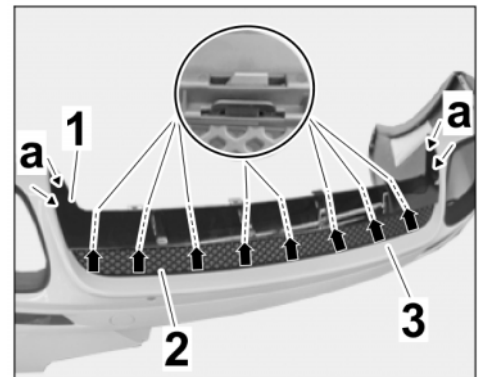

Figure 10
- 2.5 Install new diffuser (⇒ *Figure 10*).
- 2.5.1 First, clip diffuser into the center grille (⇒ *Figure 10 -Arrows-*).
- 2.5.2 Then, clip diffuser into the rear skirt (⇒ *Figure 10-a*).